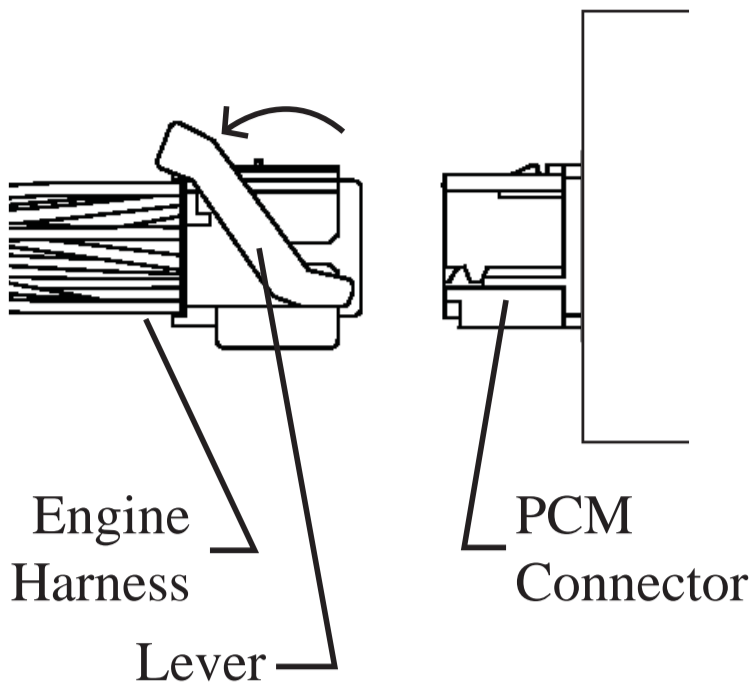

FIGURE 3 - Connector Removal
2. Refer to Figure 3. In order to remove the engine harness from the PCM, the lever on the harness connector needs to be rotated away from the PCM. This will allow you to safely remove the harness.